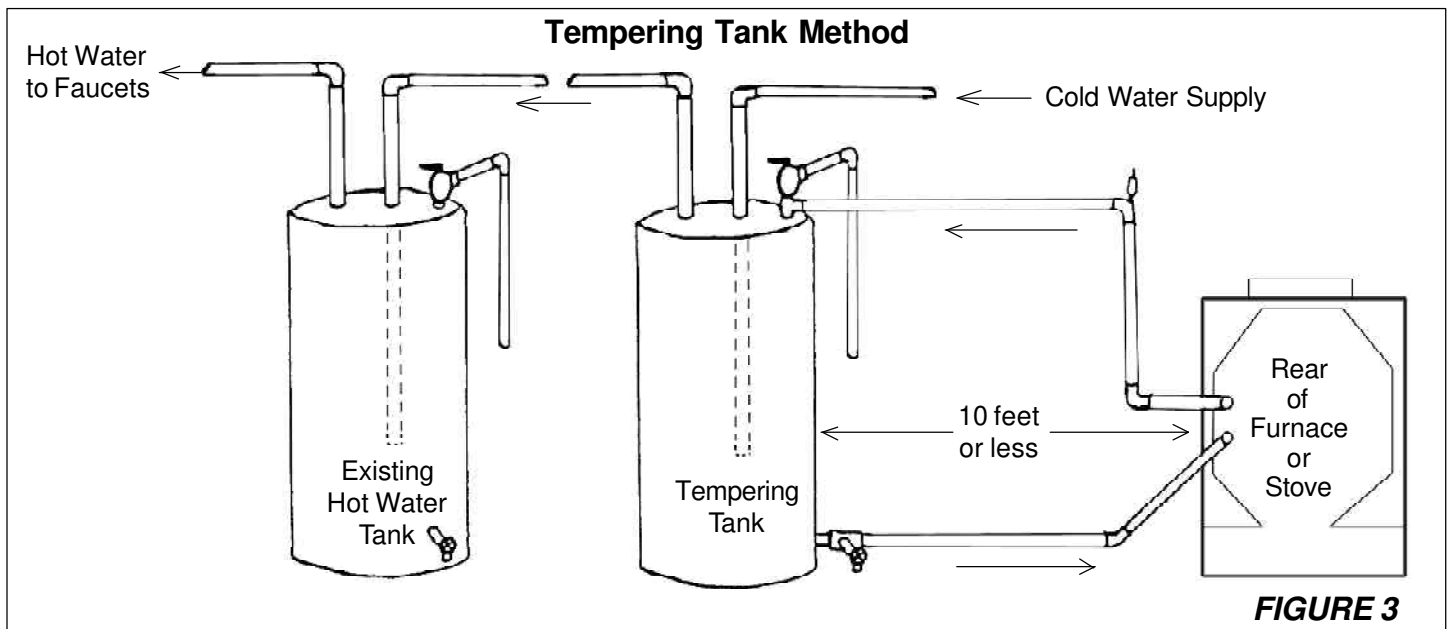

**FIGURE 2**
7. Place the coil through the holes from the inside of the firebox and run a washer and nut down each leg on the outside of the stove. Before tightening the nuts down completely, wrap a piece of hi temp fiberglass rope gasket, provided with the kit, around each threaded leg between the washer and the outside of the firebox. Tighten the locknuts down securely to insure an airtight installation. The heat exchanger coil may be installed vertically as show in figure 2, or horizontally, in which case it does not matter which leg is plumbed to or from the hot water heater as they will both be at the same level.